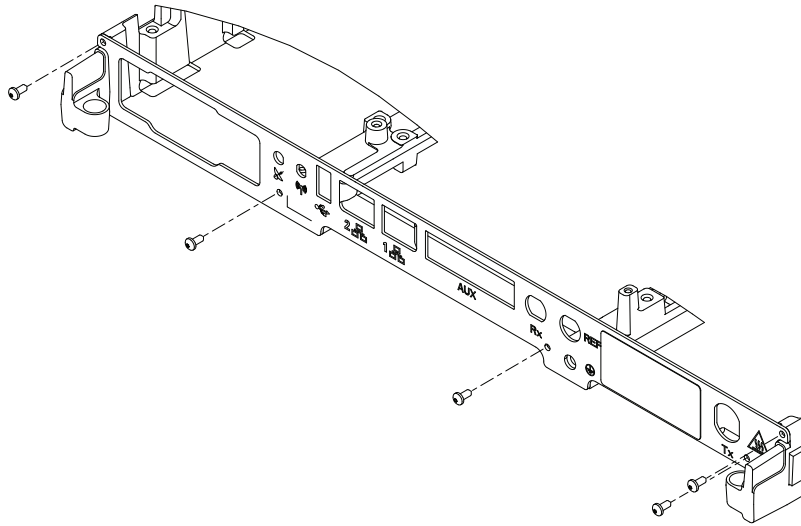

Figure 11-10 Installing M3 Screws
1. Using a T10 Torx driver, install five M3 x 0.5 x 6 mm screws (PN: 0310907A18) to 10 in-lb (1.1 N-m). See Figure 11-10.